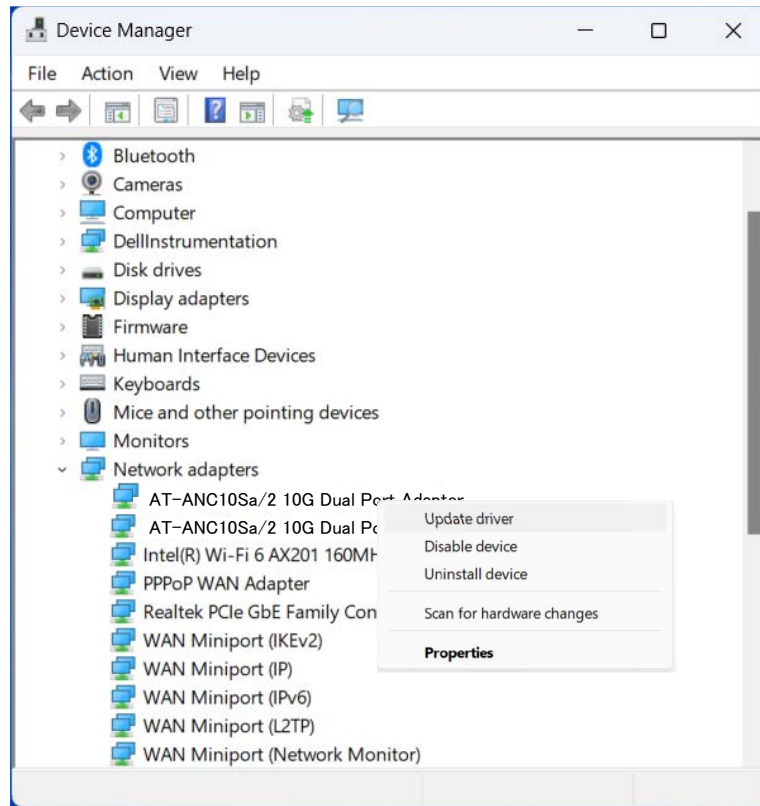

Figure 10. ANC10 Series Network Adapters in Device Manager
4. In the shortcut menu, select **Update driver**. See Figure 10.